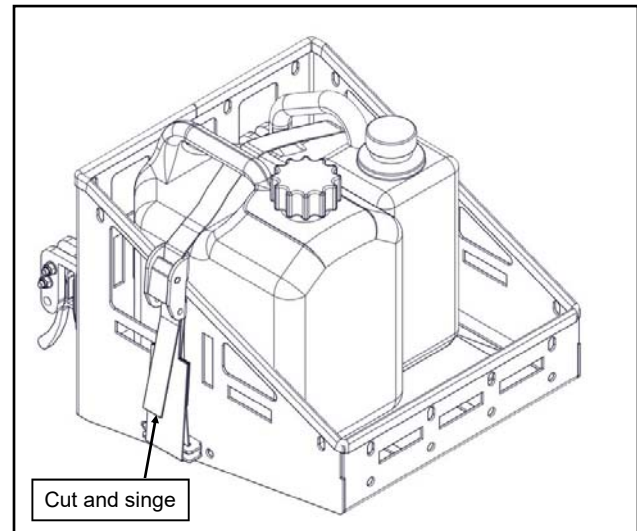

Fig. 5 (cut adjustable length hold-down strap end)
5. Once the strap is cut to length, use a heat gun or lighter to singe the cut end of the strap to make sure that the strap does not fray. See fig. 5.